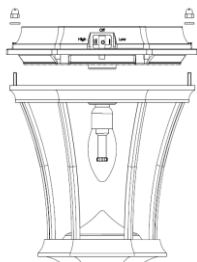

Fig. 3
1. Remove the top (A) from the fixture (B) by releasing the 2 screws (Fig. 3).